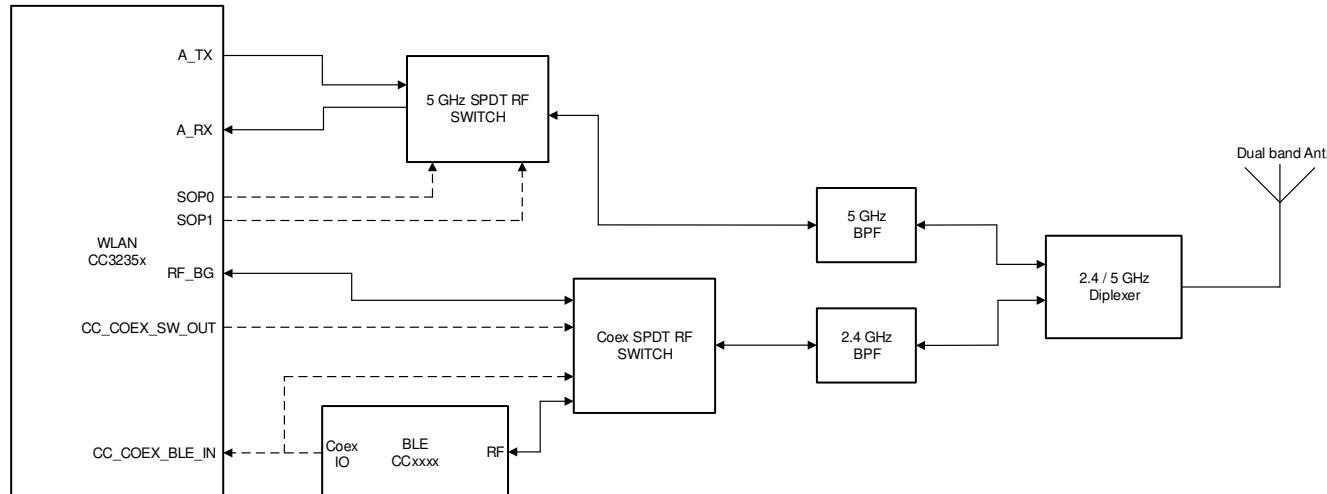

Figure 9-2. Single Antenna Coexistence Solution with 5GHz Wi-Fi
- 5GHz Wi-Fi band (see Figure 9-2)
Figure 9-2 shows the single antenna implementation of a complete Bluetooth® low energy and WLAN coexistence network with the WLAN operating on either a 2.4- or a 5GHz band. The SOP lines control the 5GHz switch. The Coex switch is controlled by a GPIO signal from the BLE device and a GPIO signal from the CC3235x device.